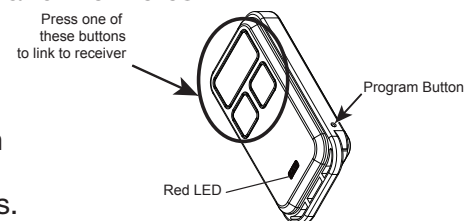

Figure 2 Side view of transmitter
- 1) With a stylus or paper clip, press the program button on the side of the transmitter until the red LED illuminates. See Figure 2 for location of button and LED.
NOTE: See Figure 2 for location of button and LED.